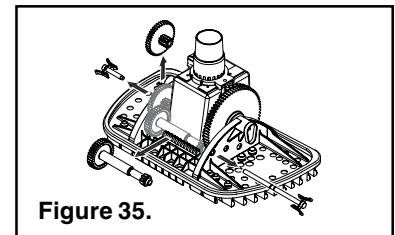

Figure 35.
3. Squeeze and pull the Sprocket Clips to release the Drive Shaft Assembly and Center Sprocket, (see Figure 35).